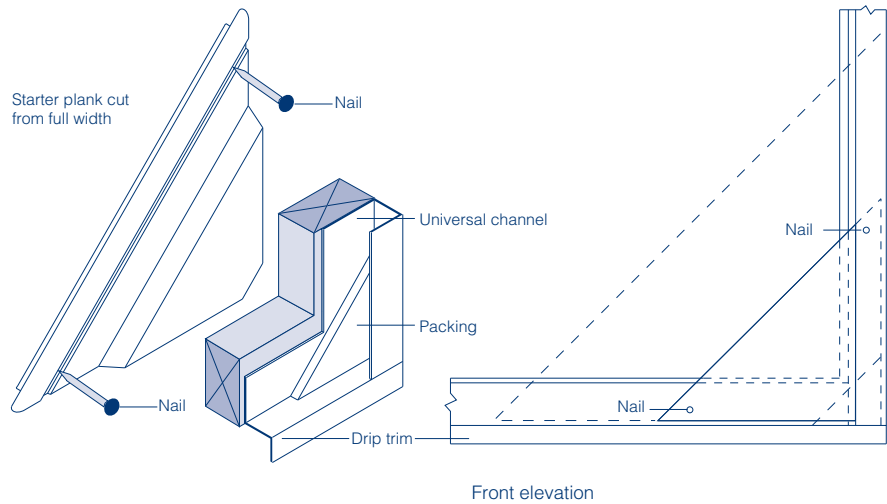

Fig.34 Diagonal plank starter piece
- Starting from a bottom corner, the first cut piece is located into the angle formed by the starter trim and vertical edge trim, using a packing as necessary (Figure 34).